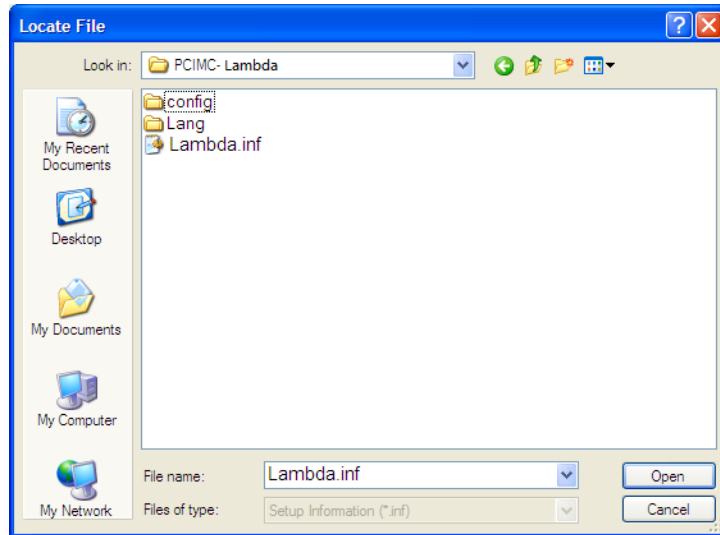

Fig. 2-12 Select the hardware driver
5. Click “Browse...” and choose target file in the dialog box pop up. Taking PM85A as an example, its directory is “C:\Program Files\Naiky\PCIMC-Lambda”, as shown in Fig. 2-12